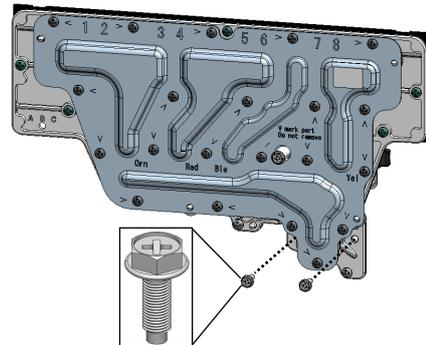

Figure 5
9. Remove the 2 hex head screws securing the existing gas manifold to the gas valve (Figure 5).